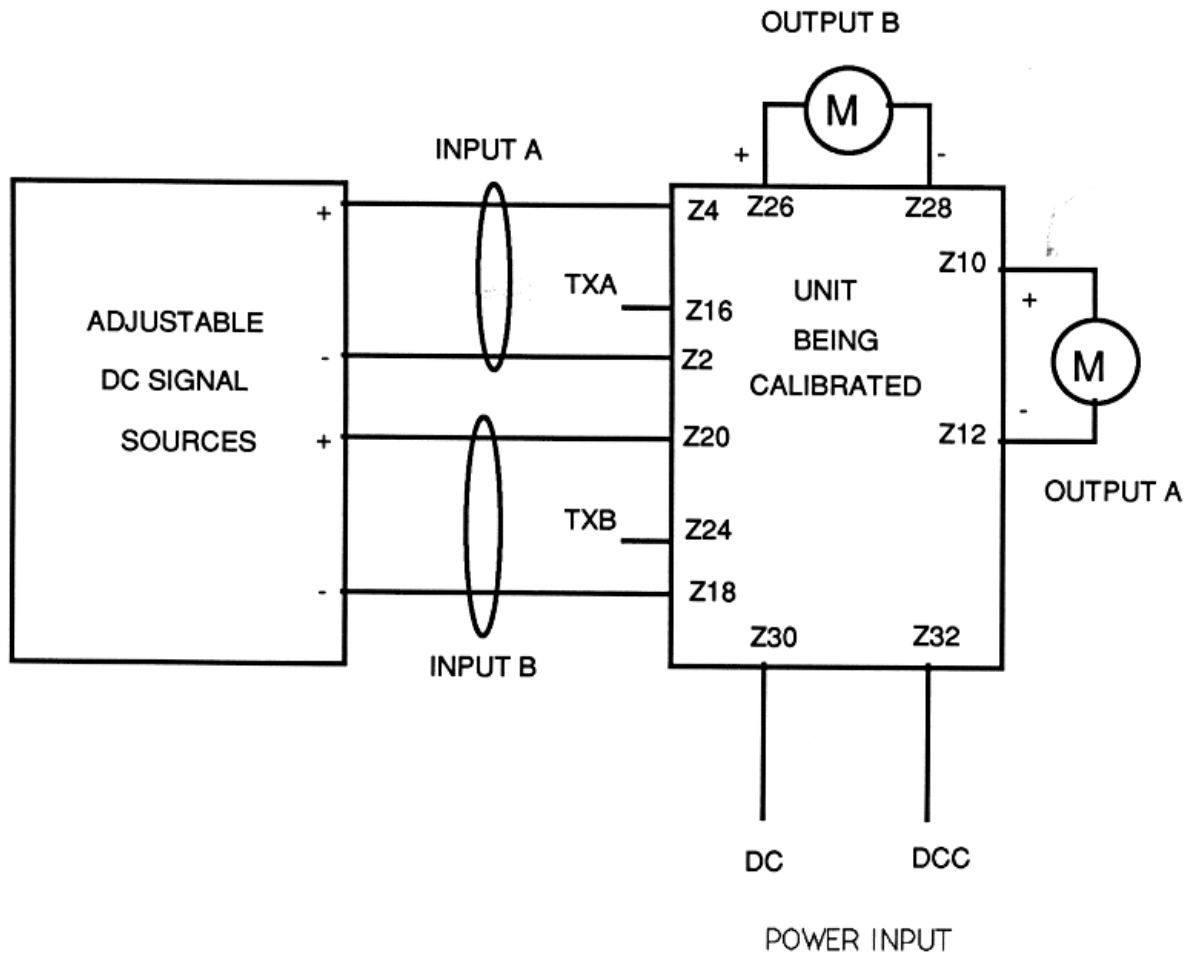

**Figure 2.** Test Equipment Setup for Calibration of the SCT-EU and SCT-EU Dual Output
Off-line calibration for all SCT-EU units requires the same test equipment setup regardless of the physical configurations or types of options used. Refer to the test equipment setup for unit calibration as shown in Figure 2 or 3.
1. Connect the unit and test equipment as shown in Figure 2 or 3. For SCT-EU dual output units, connect the unit one output at a time as instructed in the figure.